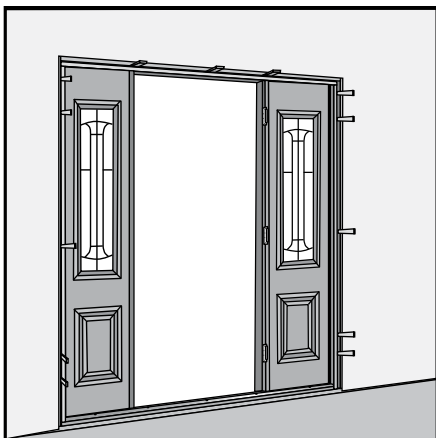
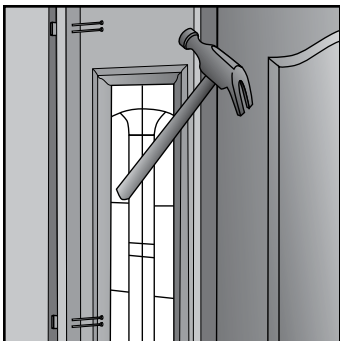

Fig. 22
Fig. 28
B. SYSTEMS 4 & 5 (**Fig. 22**); additional shimming as follows:
- Anchor jamb legs by driving a minimum of two 3" finish nails through the exterior face of the jamb into the stud at both 2" and 30" from the top and bottom of the unit (**Fig. 28**). Refer to **Fig. 22** for nailing locations. Additional anchoring locations may be necessary depending on size of the unit.